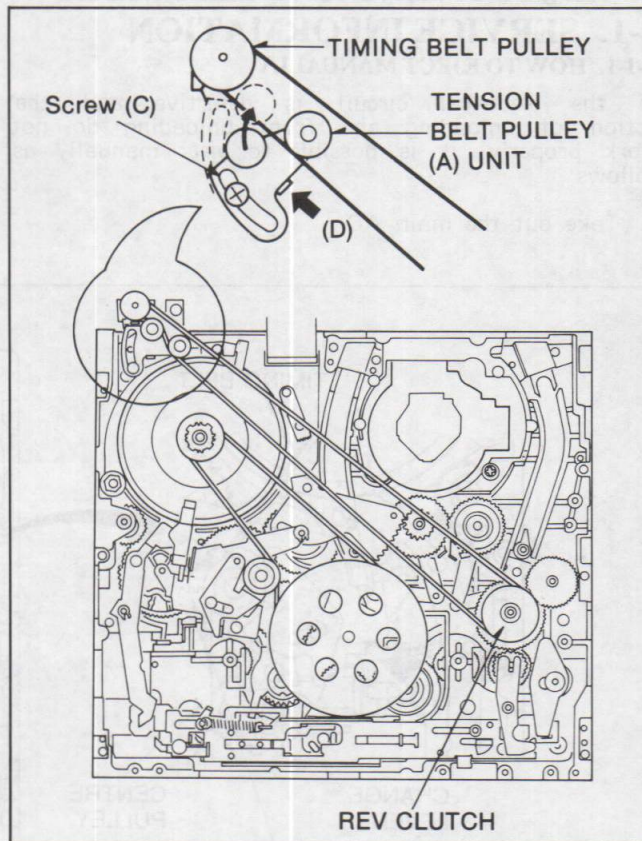

Fig. M2
1. Loosen a screw (C) by using the screwdriver.
2. Set the Fan Type Tension Gauge to the direction indicated by arrow (D) as shown in Fig. M2.
3. Tighten a screw (C) when the reading of the Fan Type Tension Gauge becomes within 225 \pm 25g.